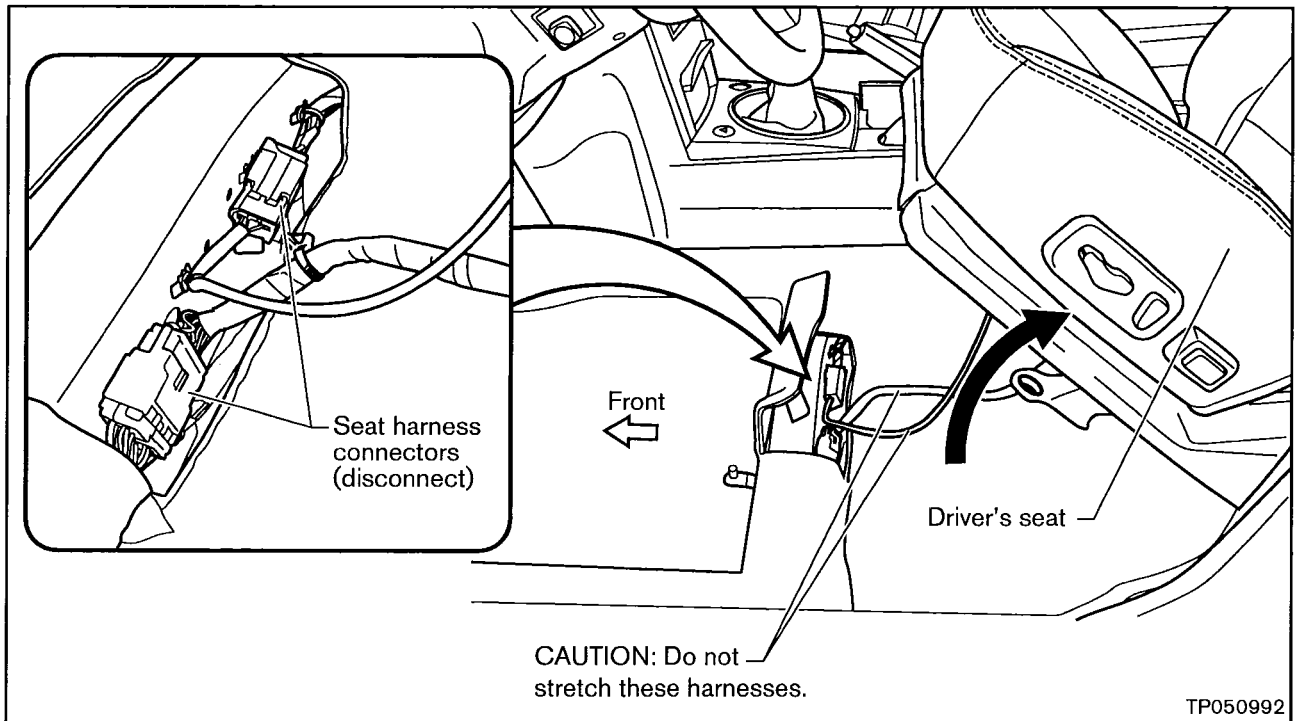

Figure 5
- k. Tilt the entire seat REARWARD (off the floor) and disconnect the seat harness connectors (see Figure 5).